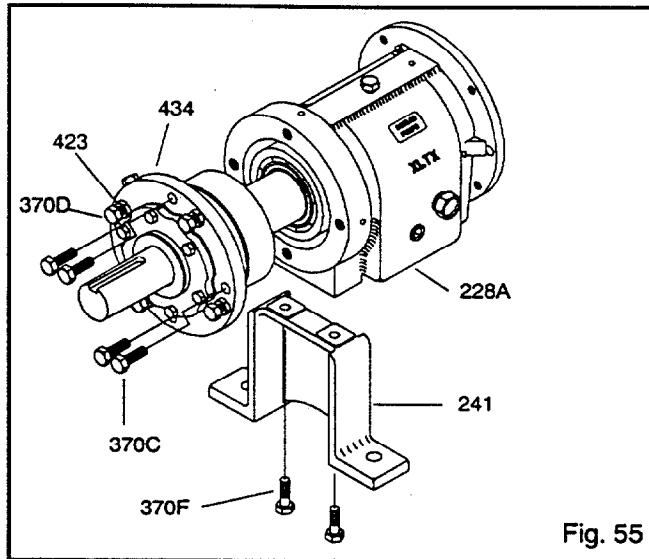

Fig. 55
1. Remove bearing frame to frame foot bolts (370F) and frame foot (241) (Fig. 55).
2. Remove clamp screws (370C). Back off jam nuts (423). Tighten jack screws (370D) evenly, this will start bearing housing (134) out of bearing frame (228A).